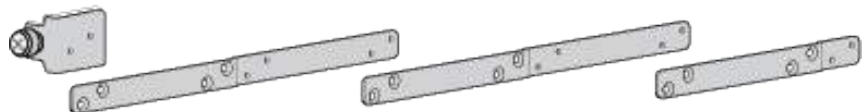

Figure 91. Extension Bracket Configurations
You adjust the lengths of the brackets by connecting them in different combinations. There are seven possible configurations. Refer to Figure 91. The default configuration is number 5. To adjust the extension brackets, perform the following procedure:
1. Review Figure 91 to find the bracket length that most closely matches the measurement taken in step 3 in the previous procedure.